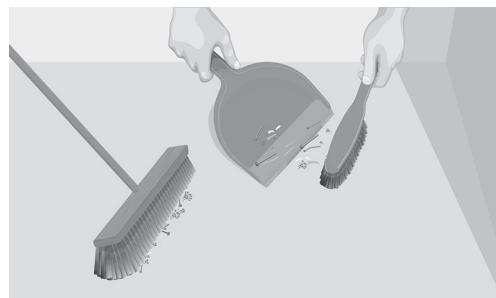

Fig. 3. Cleaning the floor before installation
**D:** Flooring. This should be installed floating directly on top of the heating mat. No other underlayment or damp proof membranes is allowed between Alumat (C) and the flooring (D). If there is a risk of moisture to arise from the subfloor, a suitable damp proof membrane should be used between the subfloor (A) and the underlayment (B).
**5.** Clean the subfloor (Fig. 3). Make sure to remove all protuding nails, screws and similar objects. Clean the floor and remove all loose debris, dust and dirt.